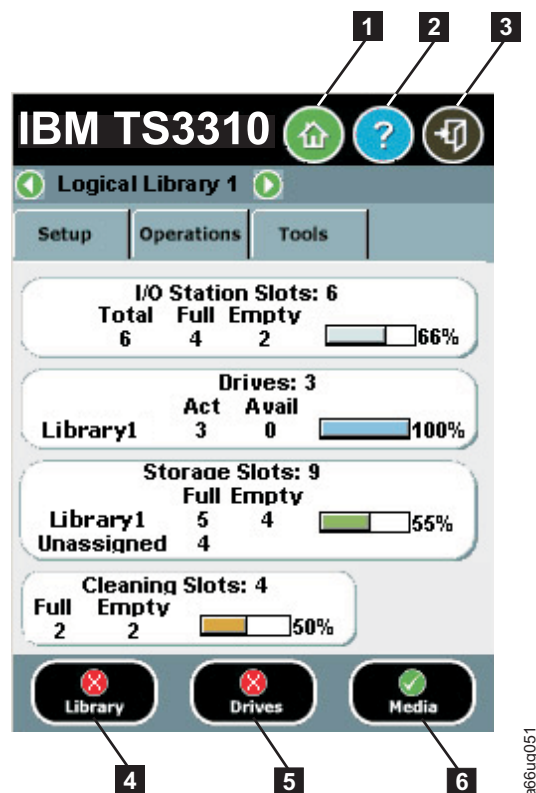

Figure 4-2. Operator Panel common header elements and subsystem status buttons
- **Home** (1 in Figure 4-2) - displays the default **Capacity View** screen.
- **Help** (2 in Figure 4-2) - context-sensitive help for the associated page
- **Logout** (3 in Figure 4-2) - ability to log out
- **Library** (**4** in Figure 4-2 on page 4-2)- opens a library menu selection screen and then the operator interventions for the library.
- **Drives** (**5** in Figure 4-2 on page 4-2)- opens the operator intervention screen for drives.
- **Media** (**6** in Figure 4-2 on page 4-2)- opens the operator intervention screen for media.